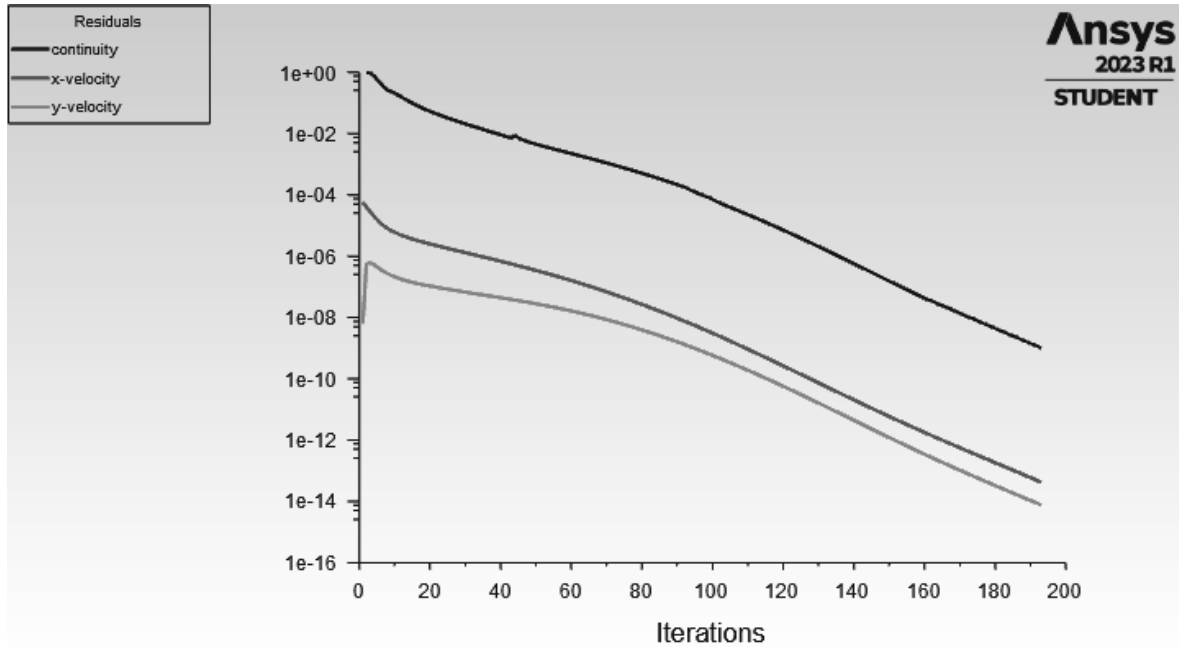
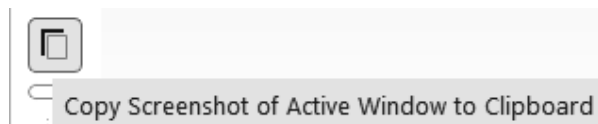

Figure 2.12b) Scaled Residuals
Figure 2.12c) Copying screenshot
Why did we set the Absolute Criteria to 1e-9? Generally, the lower the absolute criteria, the longer time the calculation will take and give a more exact solution. We see in Figure 2.12b) that the x-velocity and y-velocity equations have lower residuals than the continuity equation. The slopes of the residual curves for all three equations are about the same with a sharp downward trend.
- Double click on Run Calculation under Solution and enter 5000 for *Number of Iterations*. Click on the *Calculate* button. The calculations will be complete after 196 iterations, see Figure 2.12b). Click on Copy Screenshot of Active Window to Clipboard, see Figure 2.12c). The Scaled Residuals can be pasted into a Word document.